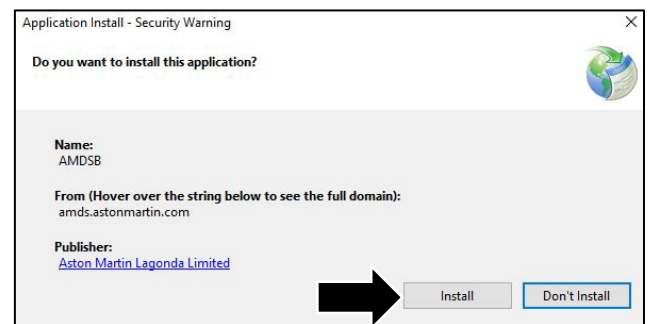

Figure 12
2. Click “Install” (refer to Figure 12).